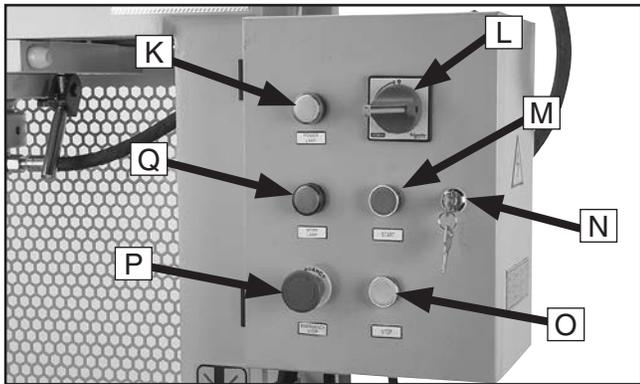

Figure 2. Control panel components.
- L. Master Power Switch.** Toggles incoming power ON or OFF. Vertical position toggles incoming power ON. Horizontal position (see **Figure 2**) toggles incoming power OFF.